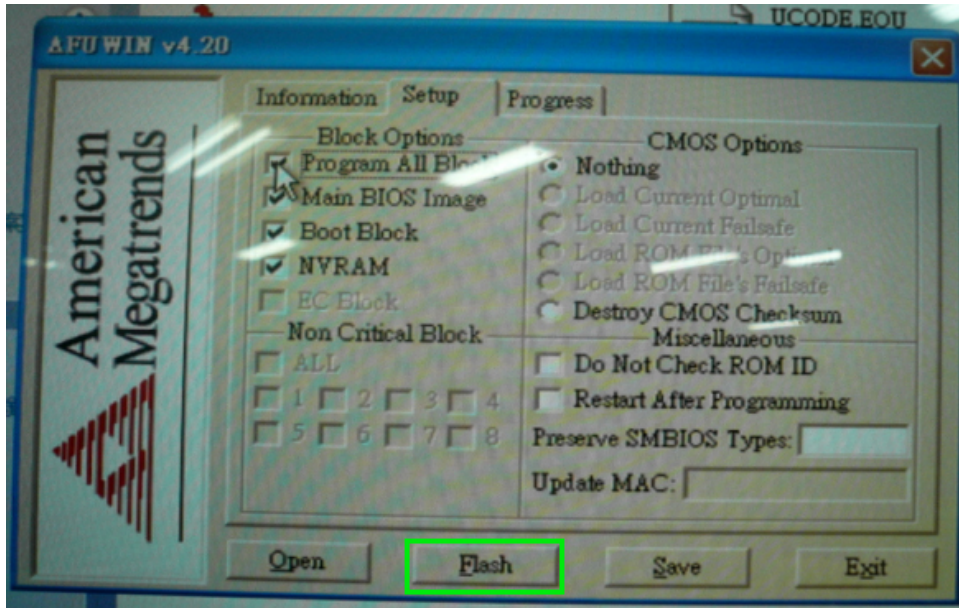

Figure 6-17: AFUWIN – Flash
**Step 5:** Click **Flash** button to start updating BIOS (Figure 6-17).